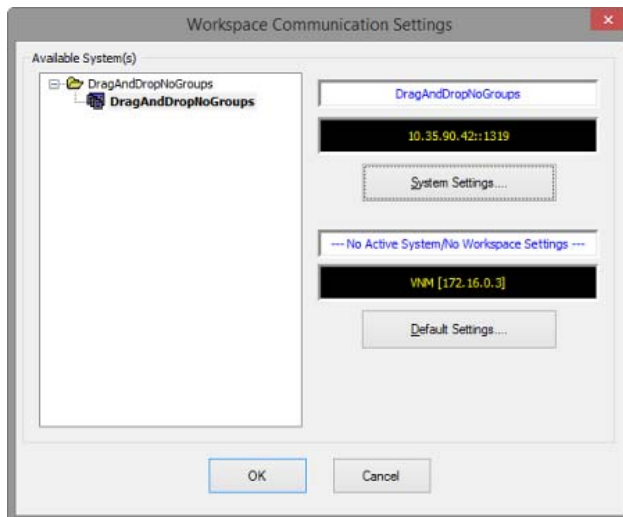

FIG. 125 Workspace Communication Settings dialog
1. Select **Settings > Workspace Communications Settings** to open the *Workspace Communication Settings* dialog (FIG. 125).